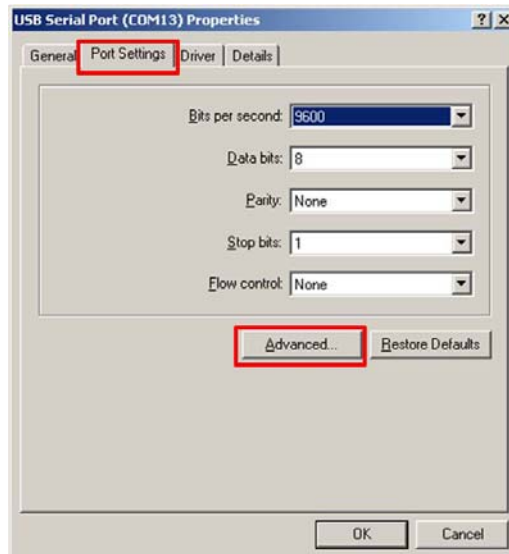

Figure 6 – Screen, Device Manager – Port Settings
- 7) The window shown in Figure 6 will appear. Select the **'Port Settings'** tab and click the **'Advanced'** button.